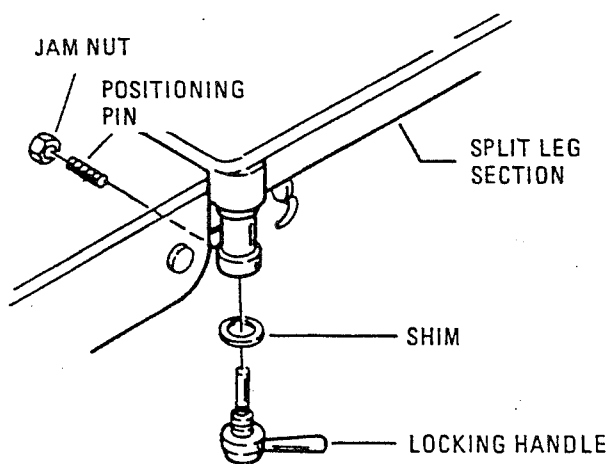

Figure 2-8.
2. Loosen the jam nut from the positioning pin. (Located toward inside of table.) See figure 2-8.